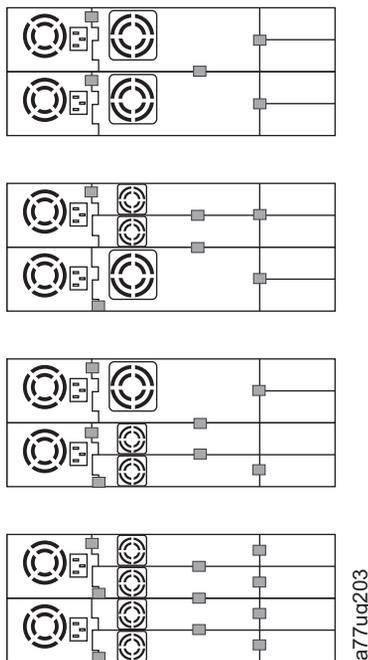

Figure 152. Drive sled taping diagrams
- h. If a drive sled without ESD springs is installed (see Figure 151), apply conductive tape as shown in Figure 152 on page 209.